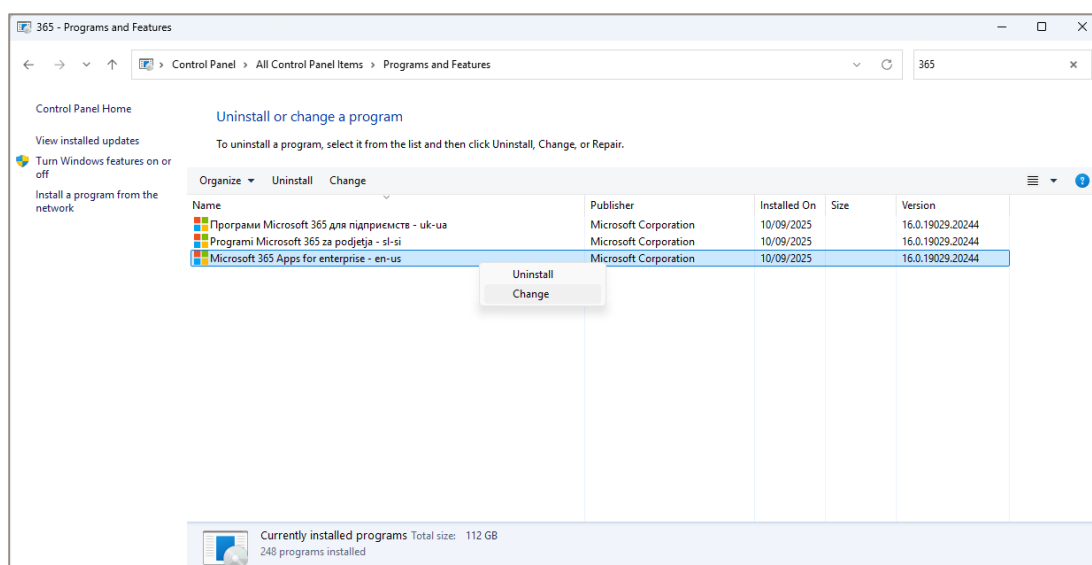

Figure 14: Step 02 - Right Click on Office 365 + Select "Change"
2. Right click on Microsoft Office – e.g. “Microsoft 365 Apps for enterprise – en-us” – and select “Change” in the pop-up window that gets displayed on screen. (see Figure 14)